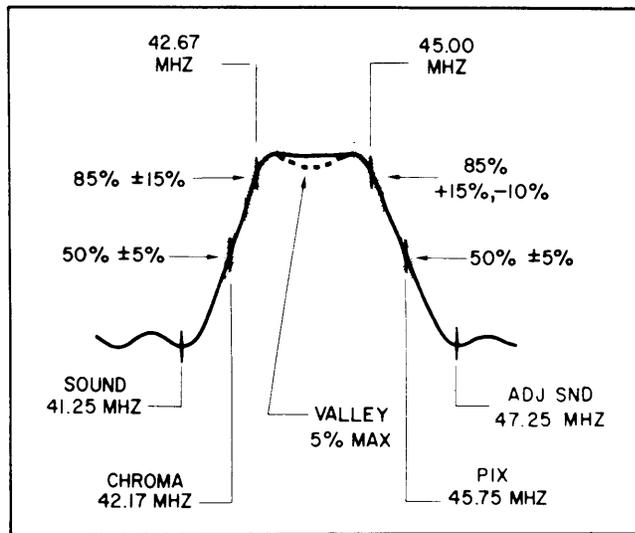

Fig. 35. Typical IF response curve, showing tolerance ranges of response levels.
7. Select the marker generator frequencies required to check the critical frequencies of interest (see Fig. 35). A sweep and marker generator capable of displaying all the markers simultaneously, such as the B & K-Precision Model 415, is a big advantage.